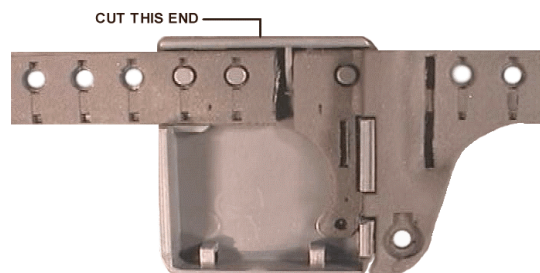

Figure 6 : Slider Bar
8. **Install Locking Mechanism:** Insert the slider bar under the strap into the hole in the side of the PID (See Figure 6 : Slider Bar) so the end of the slider bar is flush with the strap. Press a pin in the strap and into the slider PID together.